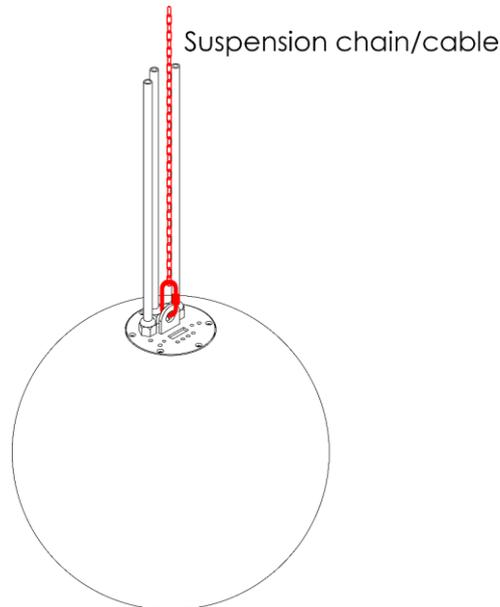

Fig. 05
Use a suitable suspension chain or cable to hang the device. Make sure that the suspension cable/chain can hold 10 times the weight of the Illumisphere 30. Fasten the suspension chain/cable onto the **cable suspension eyelet (08)**, see Fig. 05.